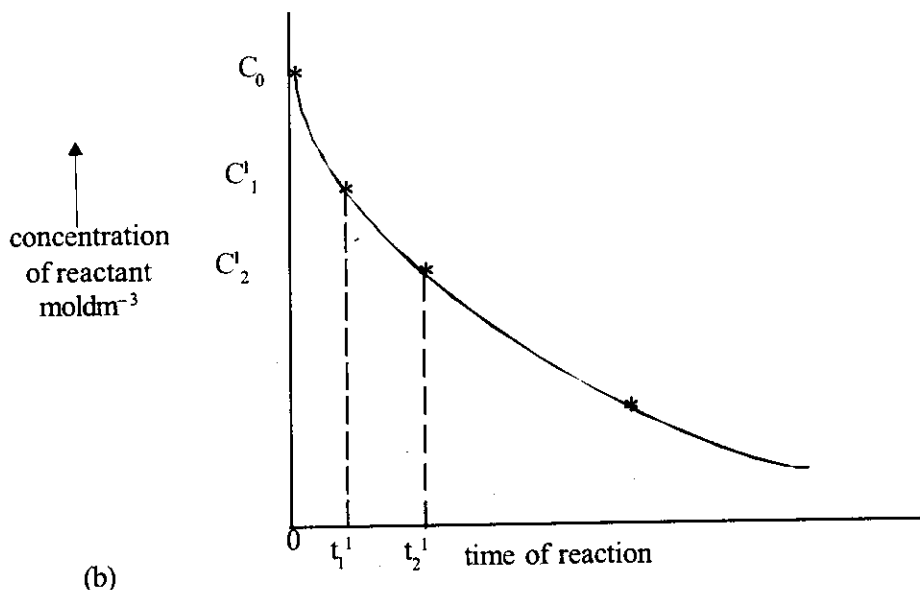

Fig 3.2
- (ii) Titration of HCl(aq) an acid with a standard solution of an alkali (NaOH) to monitor the change in the acid concentration with the time of reaction. The results from these two methods are illustrated in fig. 3.2.